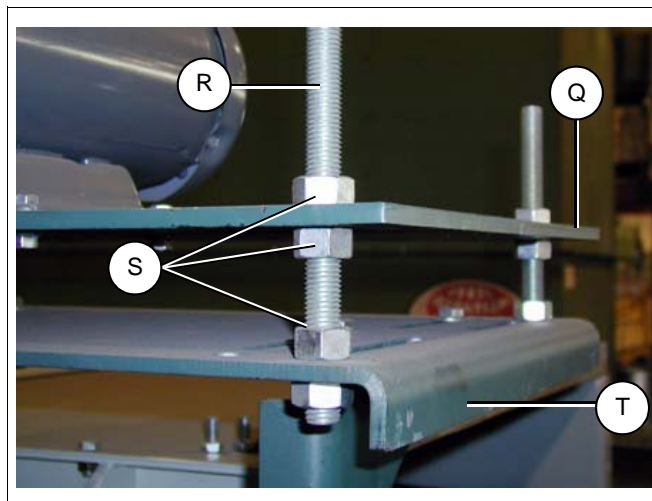

Figure 4P
- Thread nuts onto jack screws. (See Figure 4P.) Place bolt through motor mount bracket and base plate. Thread another nut onto jack screws to secure. Repeat for three (3) remaining jack screws.
- Thread another nut onto all four (4) jack screws. Place adjustment plate onto jack screws. Thread another nut onto each jack screw to secure adjustment plate. Use these nuts to adjust the motor height.